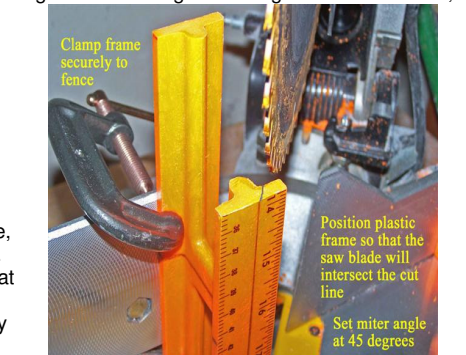

Figure 5
7) Refer to Figure 5. On the short edges of the bottom (labeled) section, draw short cut lines at a 45 degree angle to the flat surface of the bottom section, with the new cut lines meeting the lengthwise cut line drawn in the previous step. Draw these short cut lines on both edges of the bottom (labeled) section, ensuring that both short cut lines are going in the same direction.
8) Refer to Figure 5. Using a hacksaw, start cutting along the length of the bottom (labeled) section, ensuring that the cut line is at a 45 degree angle to the flat surface of the bottom section, and that the cut line is along the pencil line drawn in Step 6 above. Ensure that the bottom cut line (on the side opposite the flat surface) does not drift, and stays parallel with the lengthwise edge. Periodically check this bottom cut line to ensure that it is not drifting in or out from the edge (NOTE: this step is easiest to accomplish by cutting half of the section from one side, and the other half from the other side). After the entire length has been cut, use 150 grade sandpaper (if necessary) to smooth out any rough edges made during the cutting of this line. Do not,